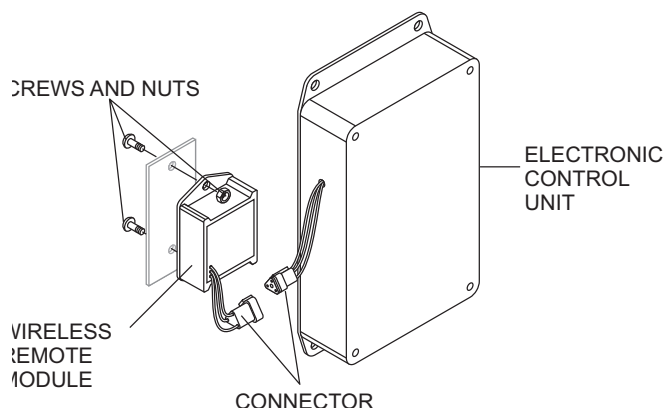

Figure 36. Installing Remote Control Module
3. Install the wireless remote module (Figure 36) with the 2 screws and nuts provided inside the control panel. Connect the 3-wire connector from the wireless remote module to the electronic control unit.